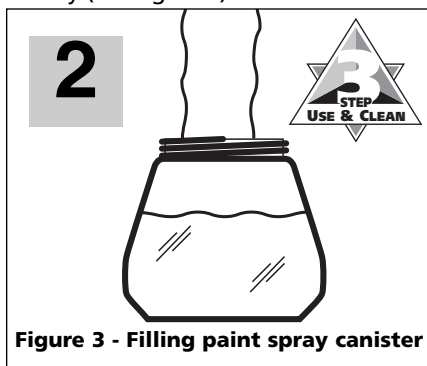

Figure 3 - Filling paint spray canister
4. Once the paint viscosity is satisfactory, fill the paint spray canister all the way (see Figure 3).